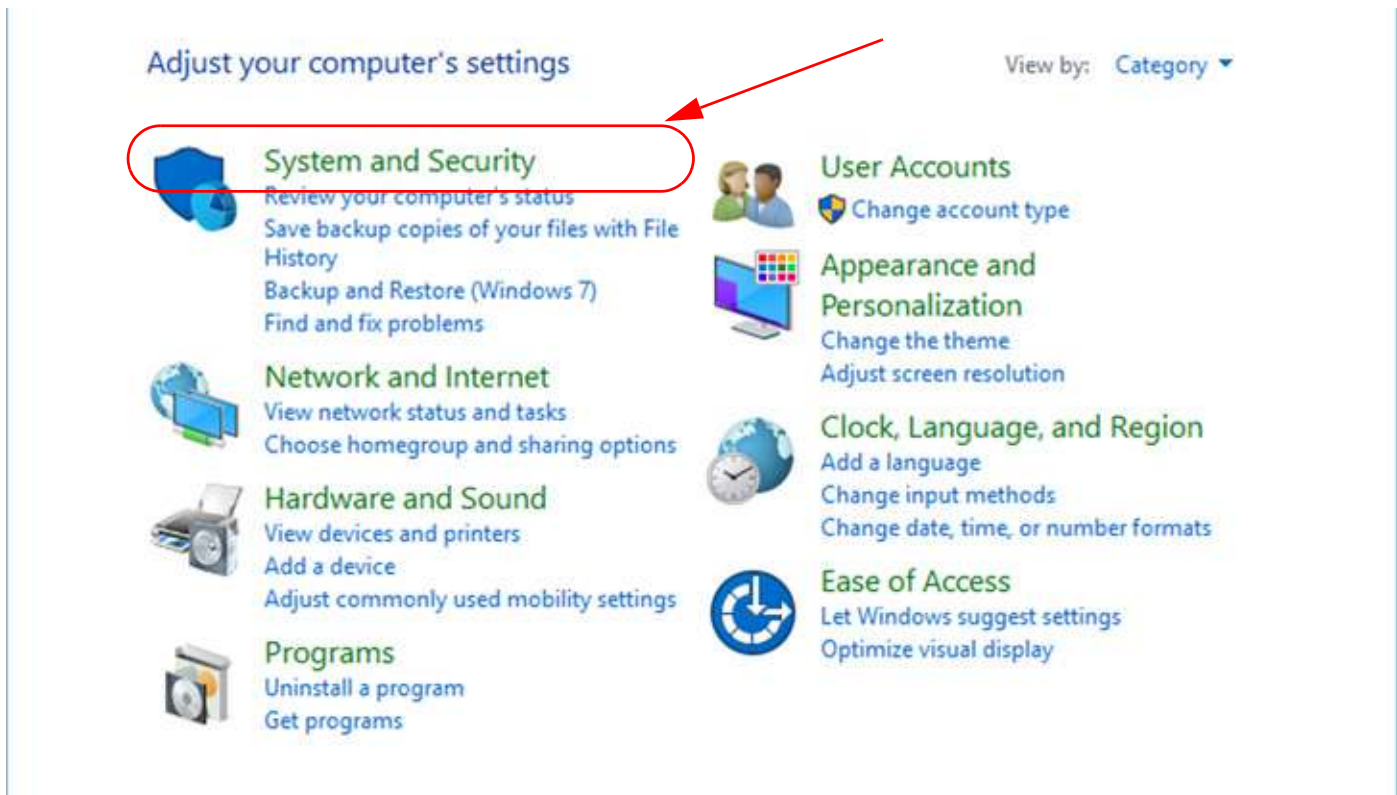

Figure 3.11: Windows 10: Control Panel -> System and Security Screen
2. From the Control Panel, select the “Systems and Security” screen. See Figure 3.11.